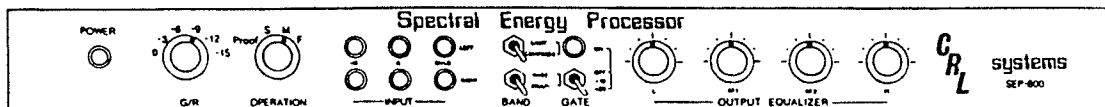

FIGURE 2-1 FRONT PANEL CONTROL LOCATIONS
3.2 FRONT PANEL CONTROLS (See Figure 2.1)